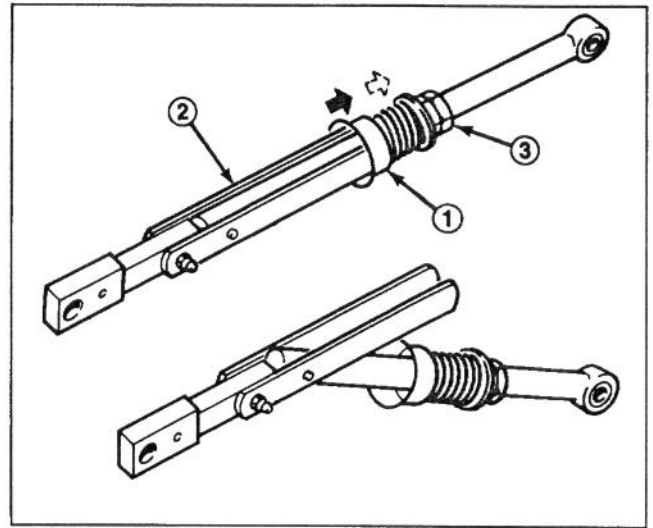

Figure 42
4. To release belt tension to cutting units, push retaining cup rearward and pivot yoke downward (Fig. 42).